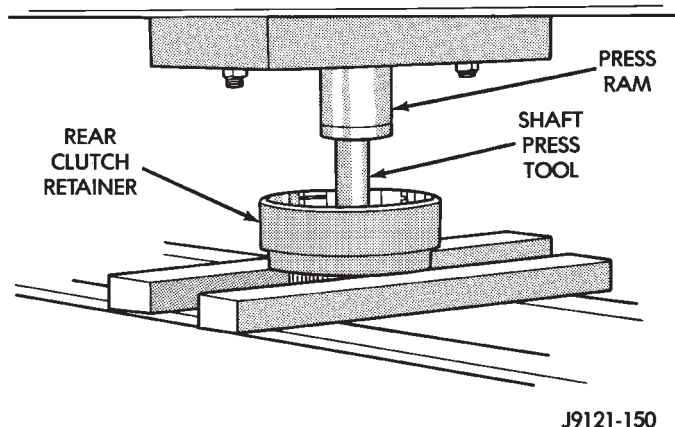

Fig. 216 Pressing Input Shaft Out Of Rear Clutch Retainer
- (7) Press input shaft out of retainer with shop press and suitable size press tool (Fig. 216).
- (8) Remove input shaft front/rear seal rings.